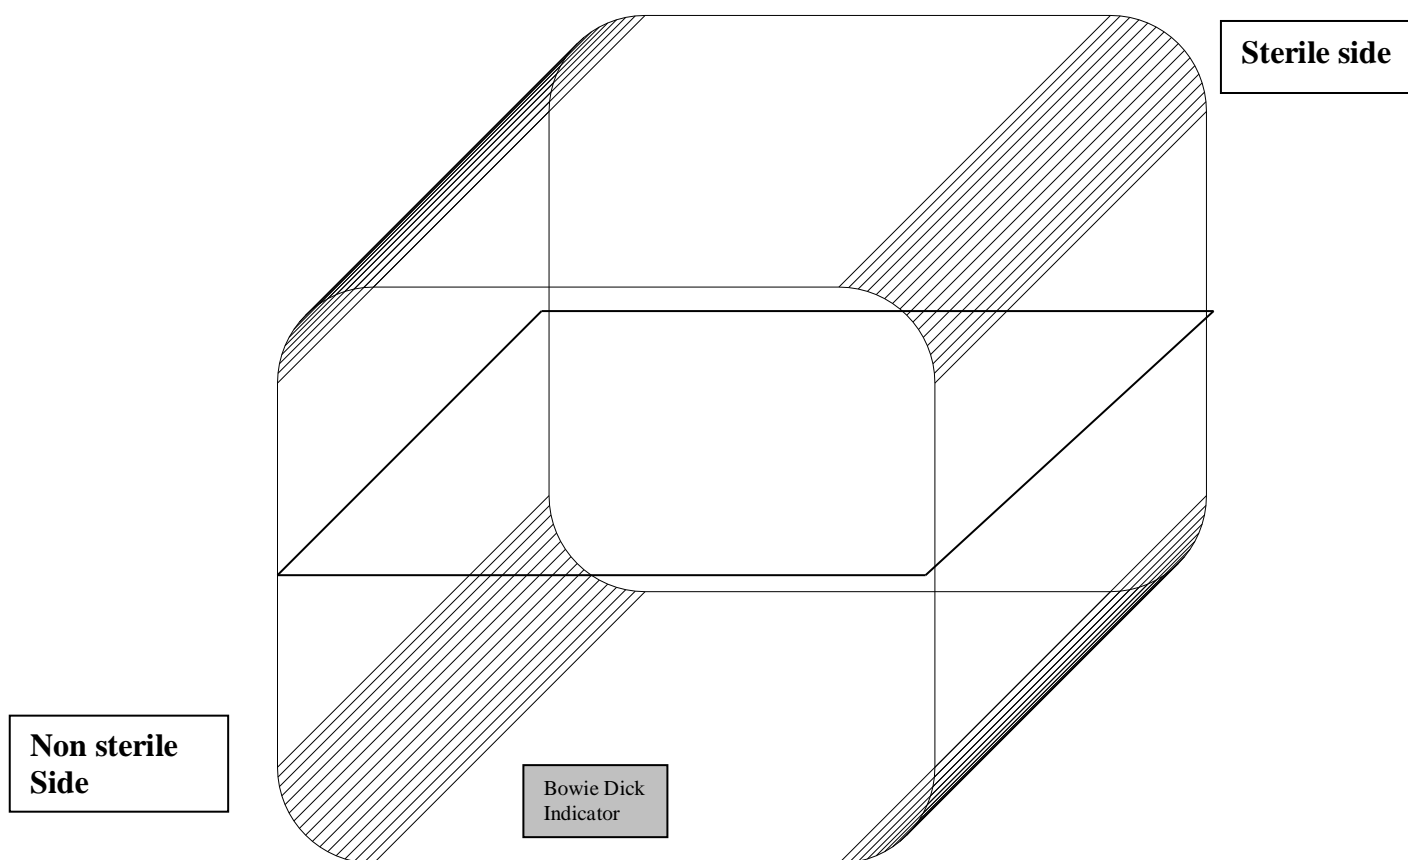

Figure 1: Location of Bowie Dick test Indicator inside the chamber at Drain Point.
- Place one Bowie-Dick Test Pack in the center (Near Drain) of the sterilization chamber, supported approximately 100 to 200 mm above the sterilization chamber base as given in Figure 1.